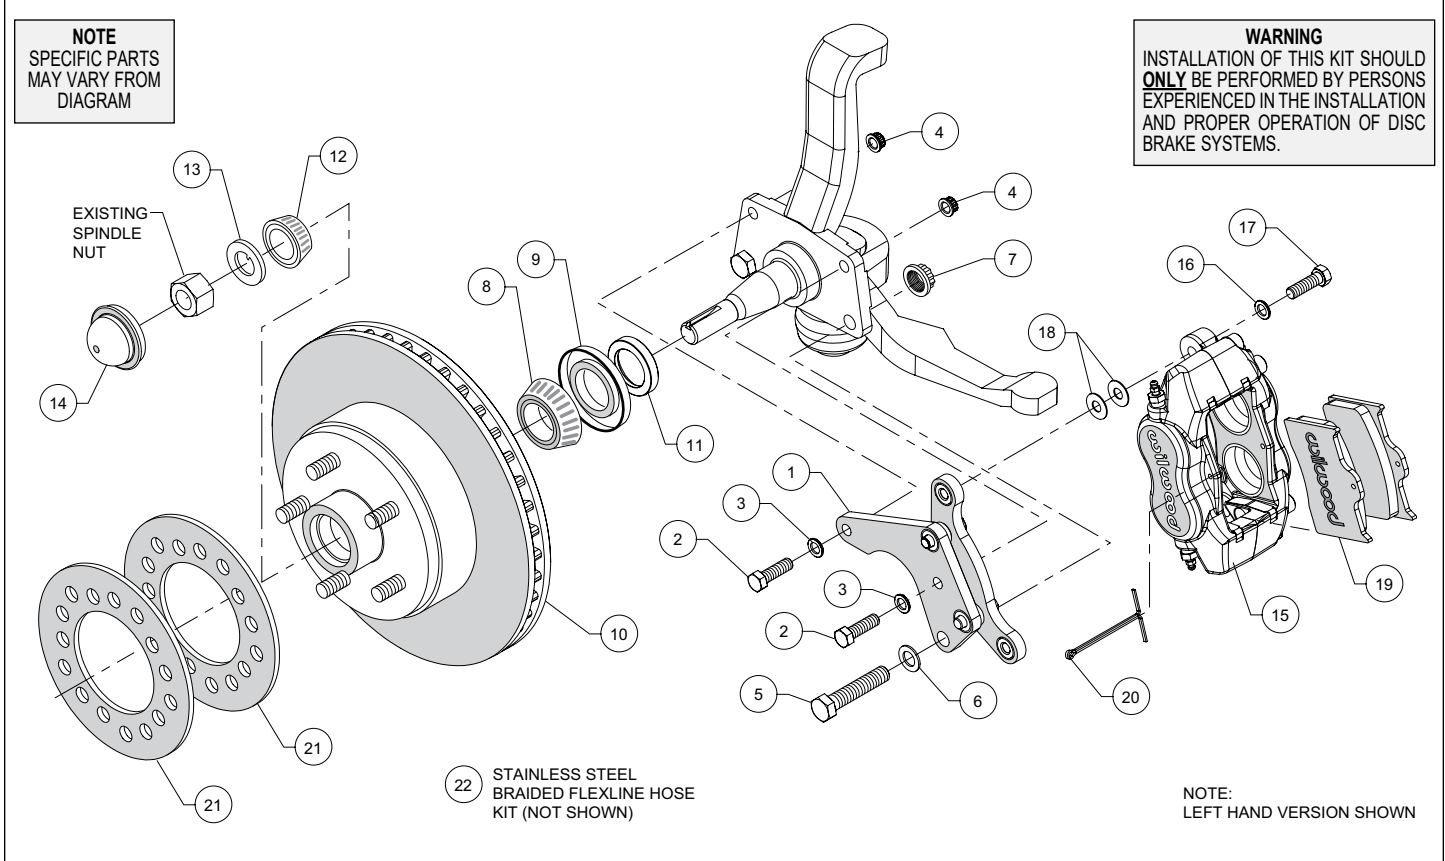
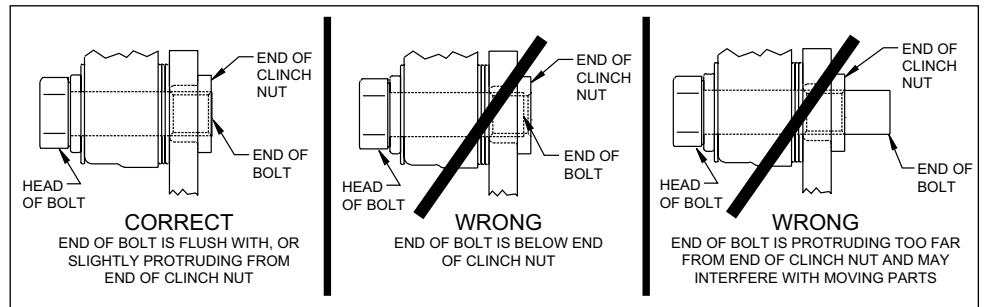

Figure 1. Typical Installation Configuration
Figure 3. Clinch Nut Engagement Diagram
NOTE: Numbers in parenthesis refer to the parts list and Figure 1 on the preceding pages.
CAUTION: All mounting bolts must fully engage clinch nuts. Be sure to check that all bolts are either flush or protruding through flanged side of clinch nut after shimming, Figure 3.
•Orient the caliper mount bracket (1) as shown in Figure 1 and Photo 1, and install using bolts (2 and 5), washers (3 and 6), and secure using nuts (4 and 7) as shown in Figure 1. Ensure that the flanged heads of the clinch nuts in the bracket are facing outboard, Photo 1. Temporarily tighten the mounting bolts.
•Pack the large inner bearing cone (8) with high temperature disc brake bearing grease (available from your local auto parts store) and install into the backside of the hub (10), Photo 2.
•Install the grease seal (9) by pressing into the backside of the hub (10), flush with the end of the hub.
•Slide the bearing spacer (11) onto the spindle. Ensure the chamfered I.D. faces inward, Photo 3.
•Pack the small outer bearing cone (12) with high temperature disc brake bearing grease and install into hub (10). Slide the hub/rotor onto the spindle. Secure using spindle washer (13), Photo 4, and OEM spindle nut. Bearing adjustment: Tighten the nut while turning the hub. When there is a slight bind on the bearings, they are seated correctly. Back the nut off about 1/6 to 1/4 of a turn, or sufficiently to allow .001" to .007" end play. **WARNING:** Failure to back off adjusting nut could cause bearing to run hot and be damaged, which could cause the wheel to lock or come off. Install new cotter pin (not supplied).
•Press the dust cap (14) into the hub (10). **NOTE:** Do not hammer center of cap. Install using outer flange only.
•**NOTE:** Please reference the caution statement at the beginning of the assembly instructions. Mount the caliper (15) onto the caliper mounting bracket (1) using bolts (17) and washers (16), as shown in Figure 1. Initially place two .035" thick shims (18) on each bolt between the caliper and the bracket, Photo 5. Temporarily tighten the mounting bolts and view the rotor (10) through the top opening of the caliper. The rotor should be centered in the caliper, Photo 6. If not, adjust by adding or subtracting shims (18) between the bracket and the caliper. Always use the same amount of shims on each of the two mounting bolts. **NOTE:** The end of each bolt must be flush with or slightly protruding from the head of the clinch nut, as shown in Figure 3. If necessary place spare shims between washer (16) and caliper mounting ear to achieve the proper clinch nut engagement. Once the caliper alignment and clinch nut engagement are correct, remove the bolts one at a time, apply red Loctite® 271 to bolt threads, and torque to 40 ft-lb.